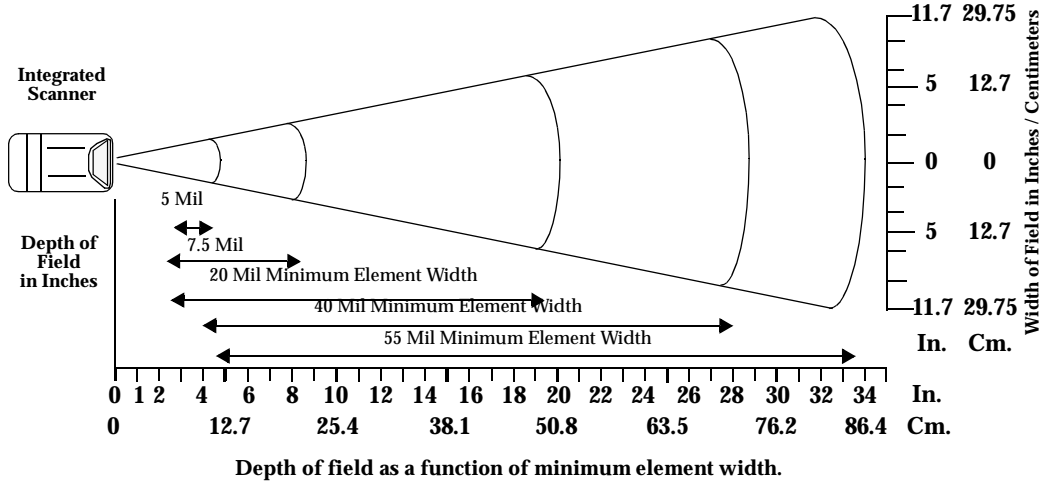
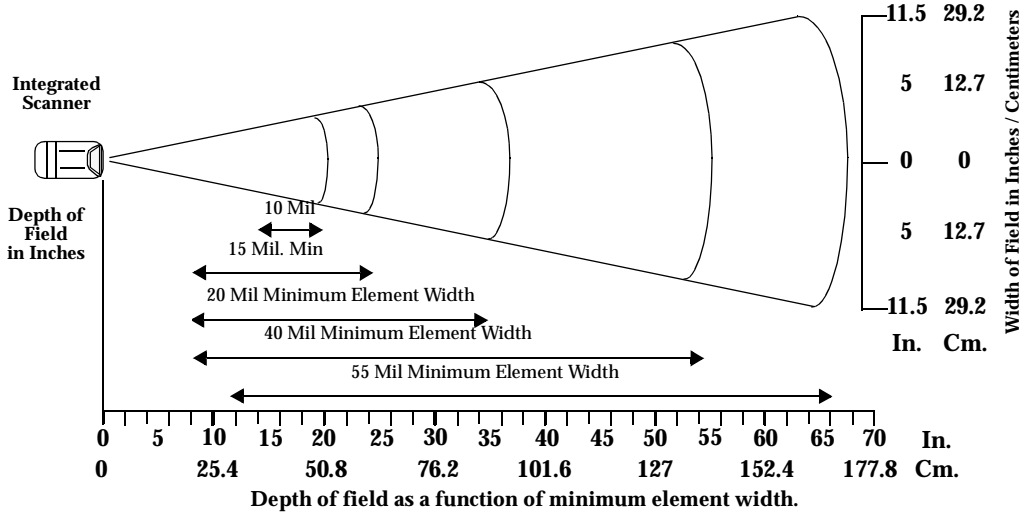

Figure 4-5. Decode Zone: Standard Range
Figure 4-6. Decode Zone: Long Range
2. Ensure the symbol you want to scan is within the scanning range (refer to the 1-D/PDF417 decode zones in Figure 4-5 and Figure 4-6). Then pull the trigger to scan.